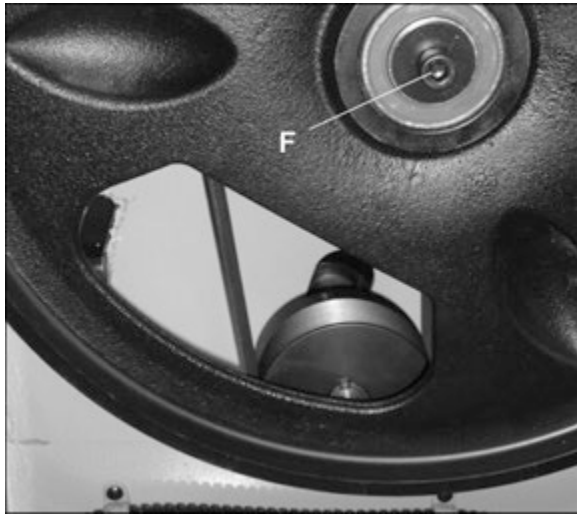

Figure 33
Refer to Figures 33 and 34.
3. Remove screw (F, Figure 33) from lower wheel shaft with a 6mm hex key and remove lower wheel.